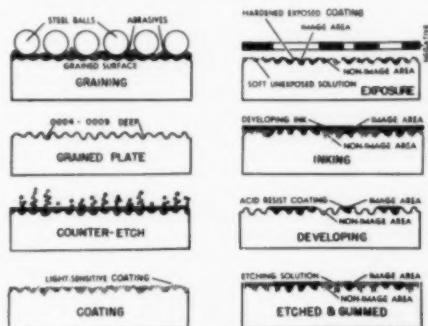

Figure 5. Albumin Process. Graphical representation of the steps involved in the preparation of an albumin plate.
**ALBUMIN:** The surface plate process is carried out as illustrated in Figure 5. The coating, generally bichromated albumin or a modified casein, is exposed through a line or halftone negative to a high intensity light source such as a white flame carbon arc. It is then coated with a dilute greasy ink known as developing ink, and developed or cleared in plain water or a very dilute alkaline solution. The development process removes the unexposed coating from the non-printing areas of the plate. Thorough development and clearing produces a plate on which the non-printing areas are apparently bare metal\* and the image areas consist of tanned albumin covered with a greasy ink.
Figures 5 and 6 outline letterpress. In all letterpress printing, the distinguishing characteristic is that all areas which carry an ink pattern, whether it be type matter or illustration, are at a substantially higher level than the non-printing areas. The printing image is presumed to lie entirely at the top surface of the plate and the rest of the plate is by chemical or mechanical means reduced to a lower level, which may vary from a very few thousands of an inch in a picture area to as much as two or three hundredths of an inch in type areas.